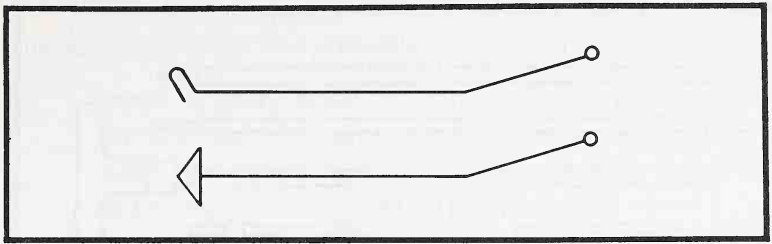

Fig. 23-9. Bent coathangers used to lift automobile pushbutton door locks.
1. Use a straightened coathanger with a loop or triangle in its end as shown in Fig. 23-9.